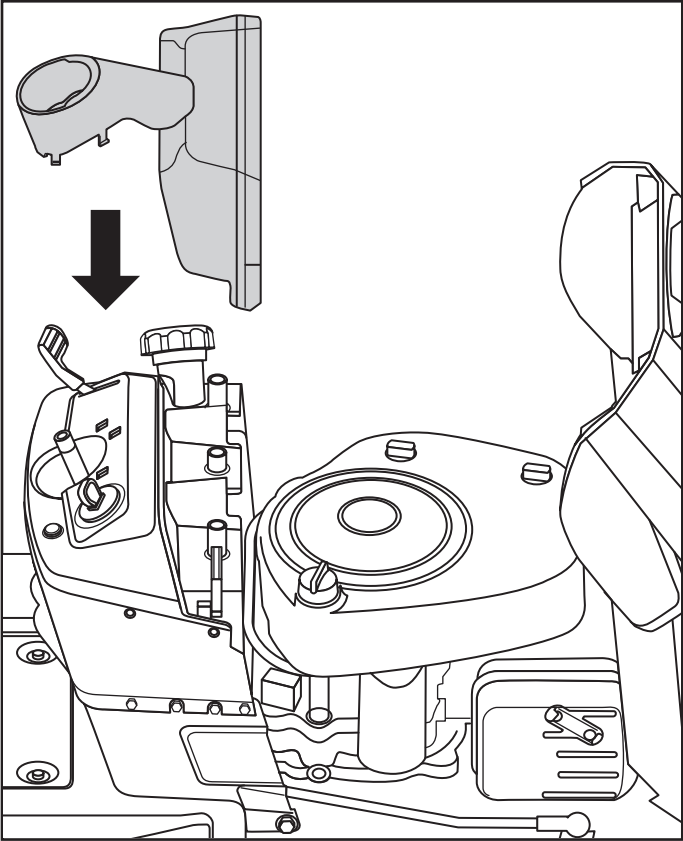

Fig. 2
- 1. Open the engine shroud and install the dashboard cover into place. (Fig. 2)